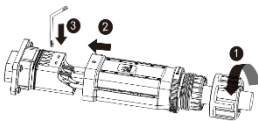

Fig. 11: Connecting wires
- 1 Guide the configured cable through the nut and cover (fig. 11 pos. 1 & 2) and attach to the contact carrier (fig. 11/pos. 3) with the enclosed Allen key [XA_3 / m 4.0 Nm].
- 2 Push the cover (Fig. 11. Pos 3) over the plug with the hole of the cover being visible (Fig. 12).